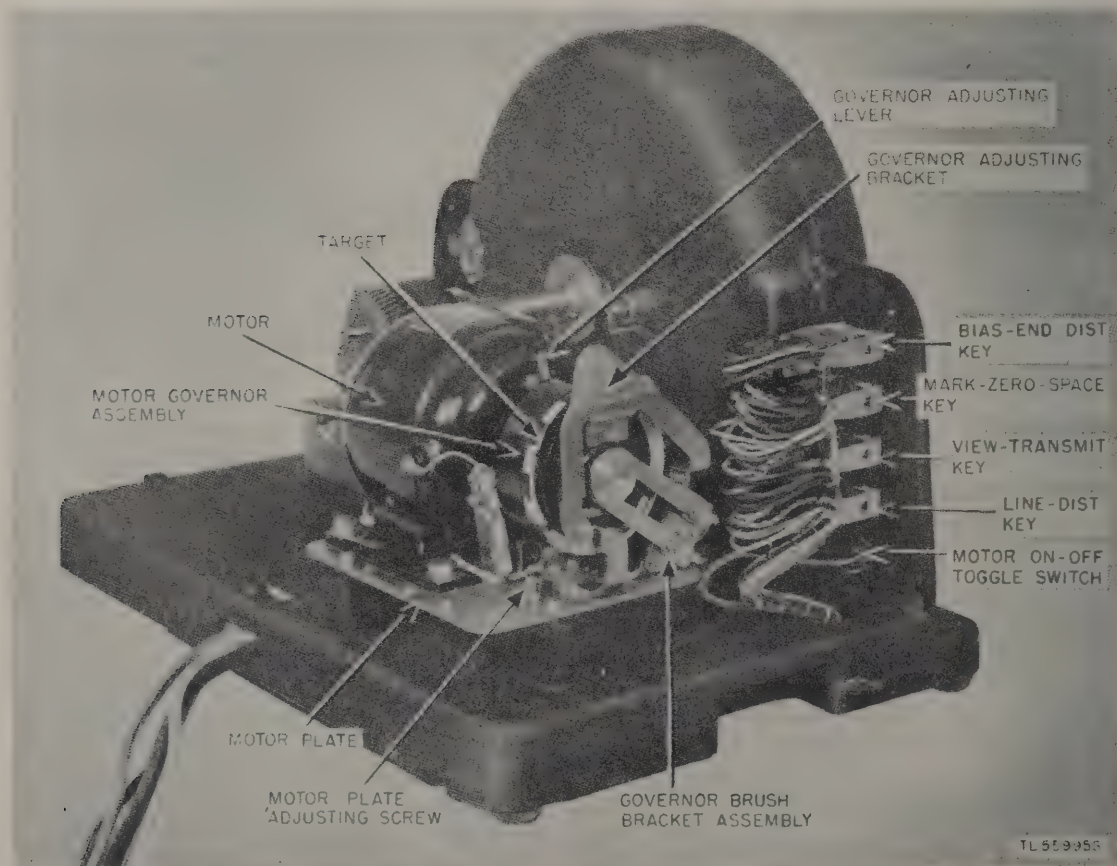

Figure 20. Distortion Test Set TS-383/GG, right rear view, cover removed.
a. Loosen the 8543 and 5546 screws. (See figs. 20 and 30.) Push the lamp arm toward the hub so that the lamp arm assembly will clear the signal measuring scale, and remove the hub. Cover the main shaft opening on the distributor face with masking tape to protect the front main shaft bearing from metal particles and grit.